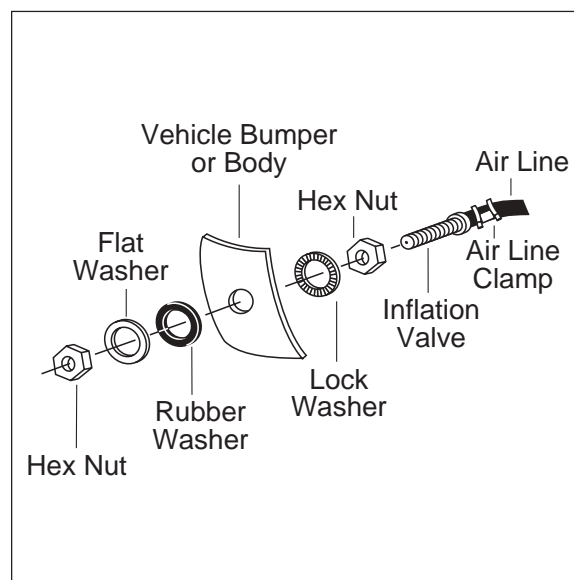

Figure 7
- M. Slide air line clamp over the air line. Push air line onto fitting covering all barbs, with pliers slide the air line clamp forward until it fully covers the barbed section (Figure 7).